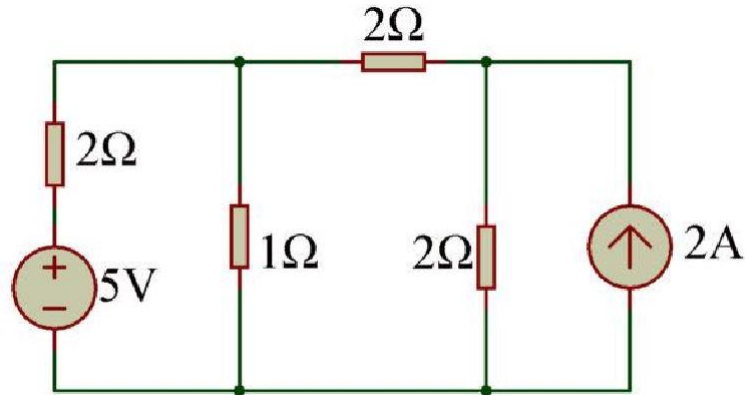
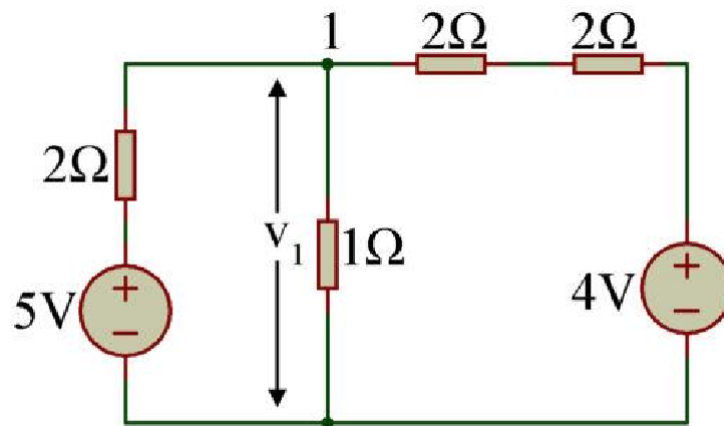

Figure: 7
Figure: 8
Example 4: In the circuit of figure 7, find the current in 1Ω resistor.
Let us first convert the current source of figure 7 to voltage source and draw the equivalent network (figure 8). Let the +ve voltage at node (1) be v_1 V.